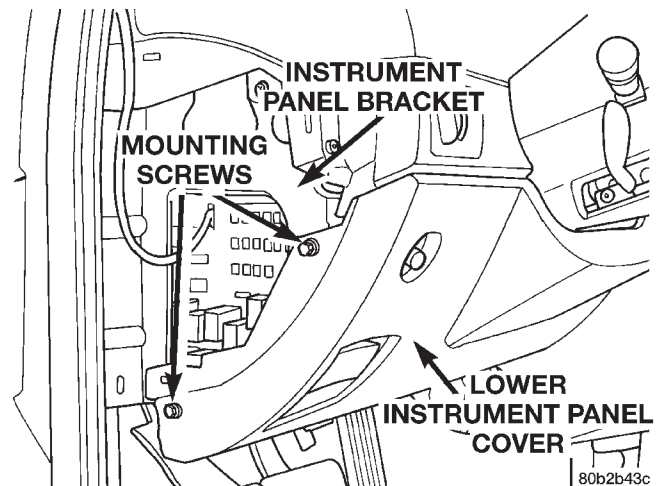

Fig. 63 Lower Instrument Panel Cover Mounting Screws
(9) Remove the 2 screws behind the fuse panel cover, (Fig. 63) attaching the lower instrument panel cover to the instrument panel mounting bracket.